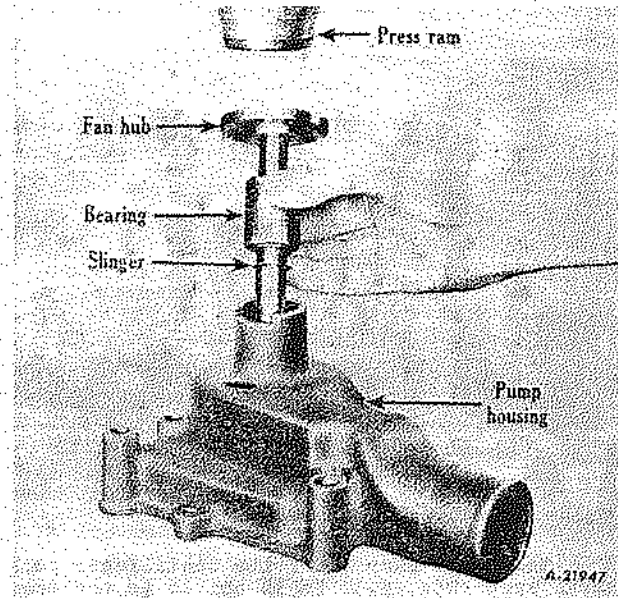

Fig. 31
2. Install shaft in housing from front end by pressing shaft, bearing, slinger, and fan hub in as one unit (Fig. 31).